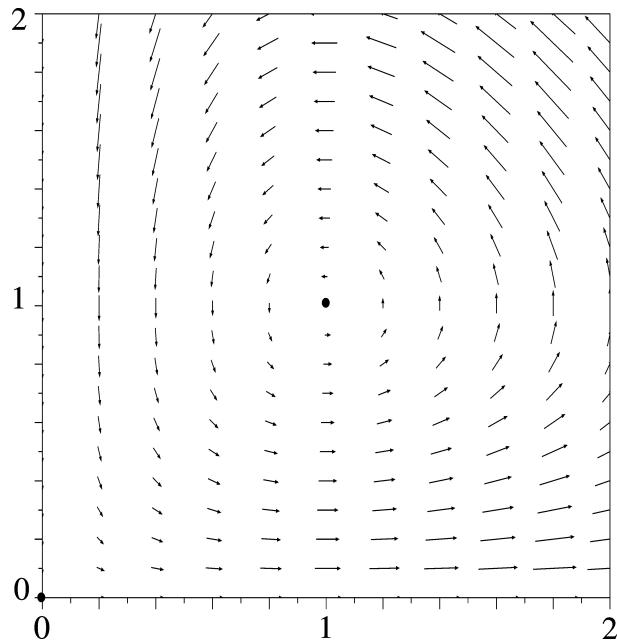

Figure 3.4: Vector field associated with the Lotka-Volterra system, in the plane (x_1, x_2)
1) Figure 3.4 corresponds to the vector field associated with the evolution function: